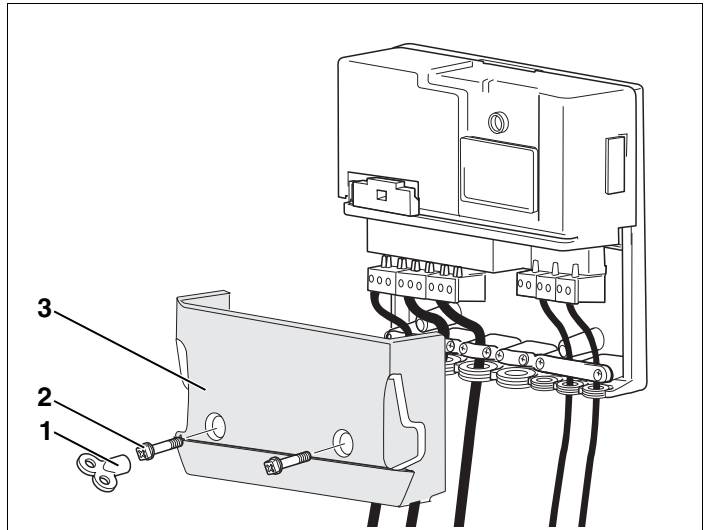

Fig. 12 Fit terminal cover
- Fit the terminal cover (Fig. 12, **Item 3**).
- Tighten the Phillips screw (Fig. 12, **Item 2** either with a Phillips screwdriver or with a bleeder key (Fig. 12, **Item 1**).